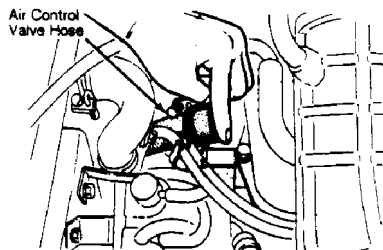

Fig. 3: Checking Air Control Valve
- 2) Disconnect air cleaner-to-air control valve hose at air cleaner. Place a finger over the hose opening. Increase the engine speed and make sure that air flows out when the engine speed is 1500-2500 RPM or higher. See Fig. 3.